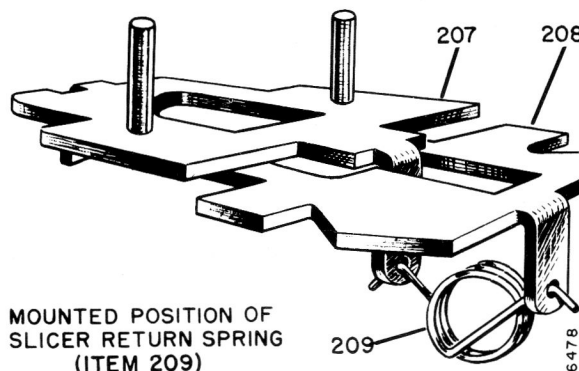

Figure 12. Position of Slicer Return Spring.
Since the pressure exerted by the Slicer Return Spring (209) on the Push-Off Slider Assembly (207) and Mounting Plate (208) may cause these three parts to spring out of the Spindle Body (210) as they are removed, take particular care when disassembling. Reassemble these three parts as illustrated in figure 12.